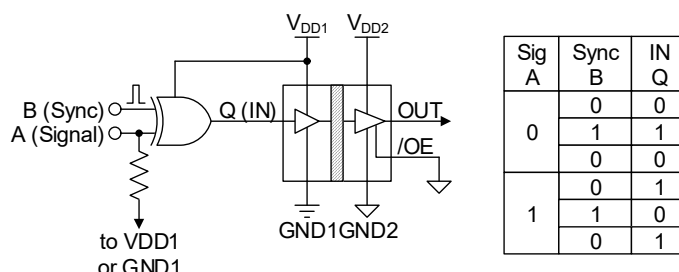

Figure 27. Sync Circuit with EXOR Truth Table
To ensure that the isolator is in a known output state, the input signal must be EXOR-ed with a sync-pulse (see Figure 27). Here, the required output state after power-up is defined by the logic state of EXOR input A. When  $V_{DD1}$  is fully established, applying a sync-pulse (low – high – low) to EXOR input B causes a pulse at the isolator input (IN). This latches the logic state at input A into the GMR bridge across the barrier. *Note:* The pulse width at IN must be  $\geq 10\text{ns}$ . After the application of the sync pulse, powering up  $V_{DD2}$ , the isolator output assumes the required output state.